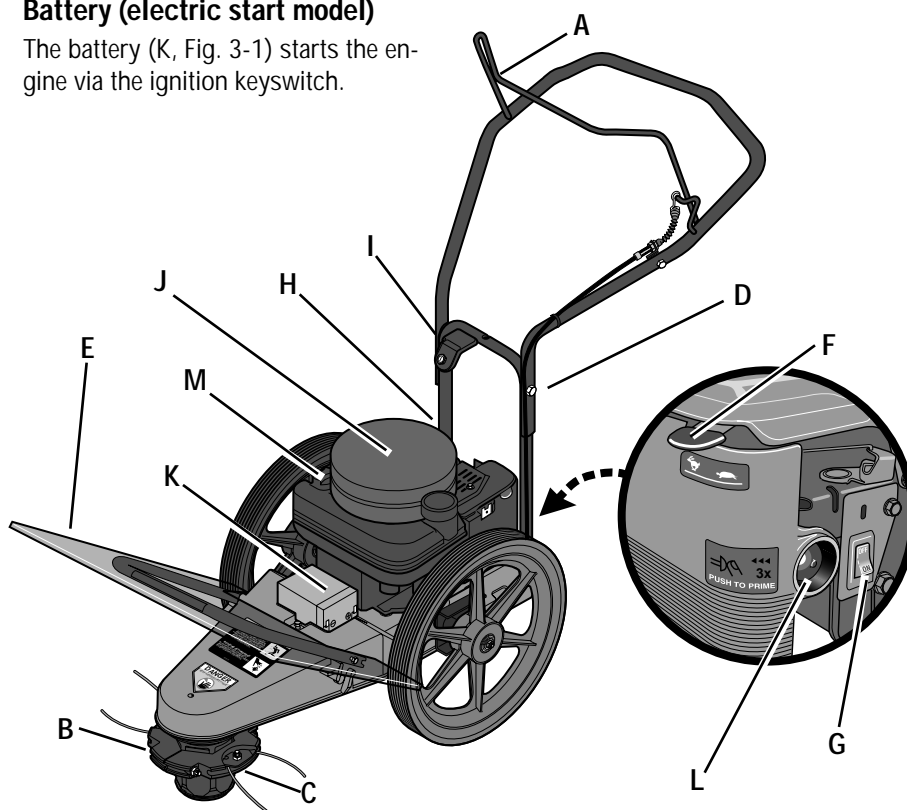

Figure 3-1: Features and controls (electric start model shown)
The control bail (A, Fig. 3-1) is used to start and stop trimmer head motion. Pull the control bail up against the handlebar to activate the trimmer head. Let go of the control bail to stop the trimmer head.
The trimming head (B, Fig. 3-1) is adjustable to an infinite number of height settings from 1-1/2"-to-4-1/2".
The two cutting lines are secured with bolted clamp plates (C, Fig. 3-1). For most jobs, line length should be adjusted equally. For some jobs, the overall line swath can be increased from the normal 22" to 25" by offsetting the line.
The handlebar (D, Fig. 3-1) has two height settings (requires removal and reinstallation of two screws and lock-nuts).
A heavy-duty plastic shield (E, Fig. 3-1 and 3-1A) protects the engine from all manner of debris. The shield tilts forward for access to oil, fuel fill, and battery (electric start units) areas.
Use this lever (F, Fig. 3-1) to regulate engine speed.
Put switch (G, Fig. 3-1) in ON position before starting engine. Use OFF position to stop engine.
The recoil starter (H, Fig. 3-1) is mounted on the engine.
The engine ignition keyswitch (I, Fig. 3-1) allows starting the engine from the handlebar.
The foam debris filter (J, Figure 3-1) protects the engine from accumulations of cut materials that can clog the engine cooling passages. See the Maintenance Section for information on servicing this important filter.
The battery (K, Fig. 3-1) starts the engine via the ignition keyswitch.
The fuel primer button (L, Figure 3-1) allows a cold engine to be primed for faster, easier starting.
The engine oil fill hole/oil dipstick (M, Figure 3-1) is located on the right side of the engine.
A. Lift and tilt plastic debris shield forward (refer to Figure 3-1).